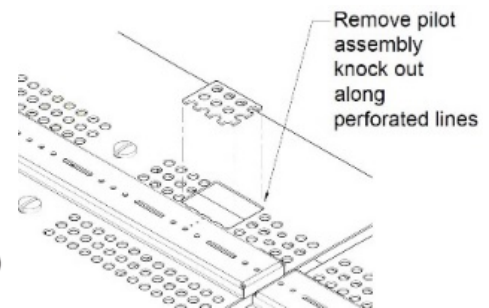

FIGURE 61
10. Before replacing the removed burner top from **step 4**, locate the perforated rectangular section in the pan. Gently remove this section along the perforations using a screwdriver or pliers. **Figure 61**